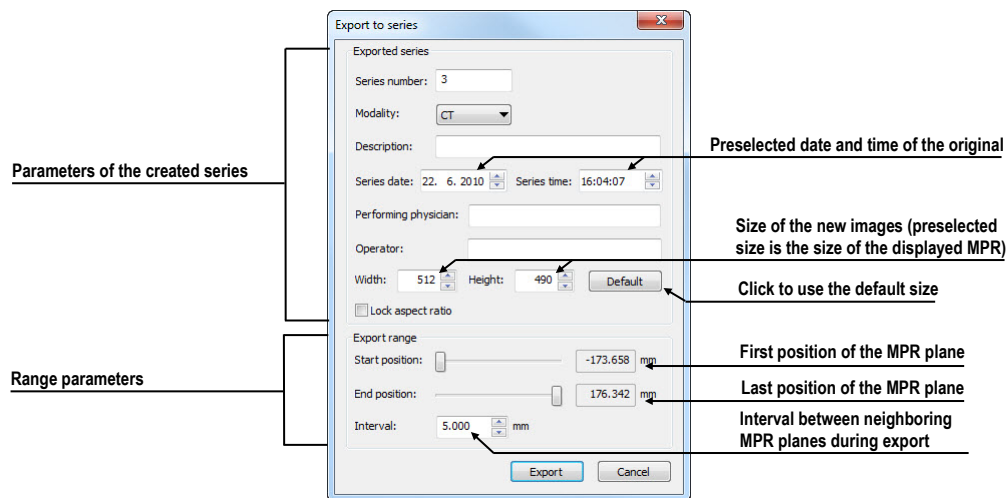

Figure 255 – Export to series dialog
3. The **Export to series** dialog will be displayed in which you can set the parameters for MPR export (see Figure 255).